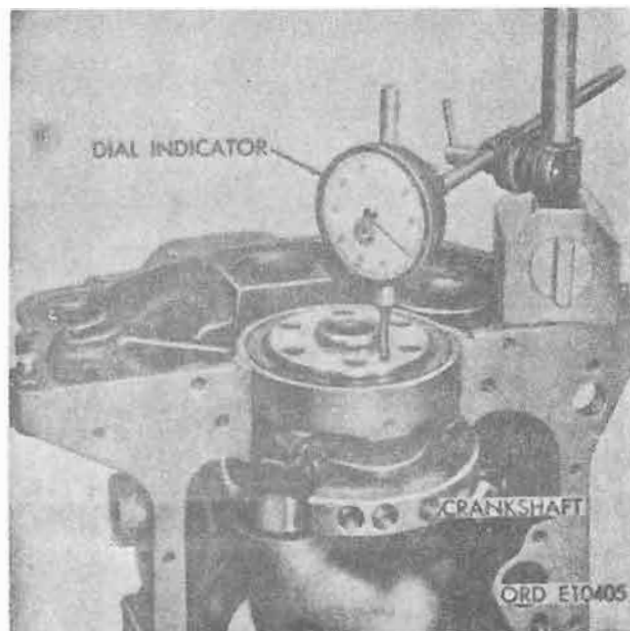

Figure 4-111. Measuring crankshaft end play.
a. **Crankshaft End Play** (fig. 4-111). Place dial indicator on cylinder block with indicator tip against end of crankshaft. With suitable lever, pry crankshaft to limits of its play and record. Refer to repair standards (table 4-9).